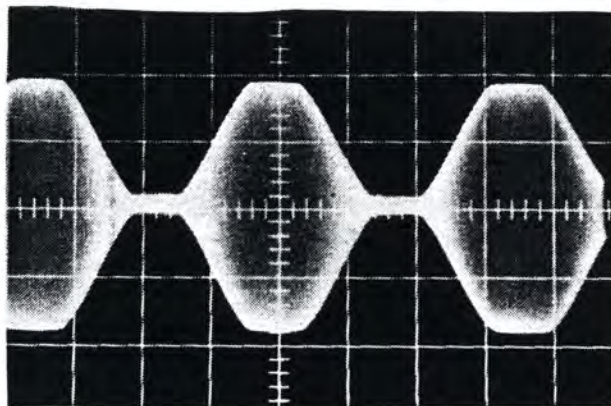
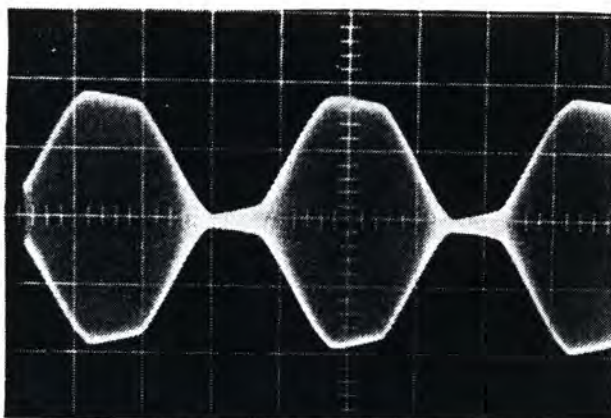
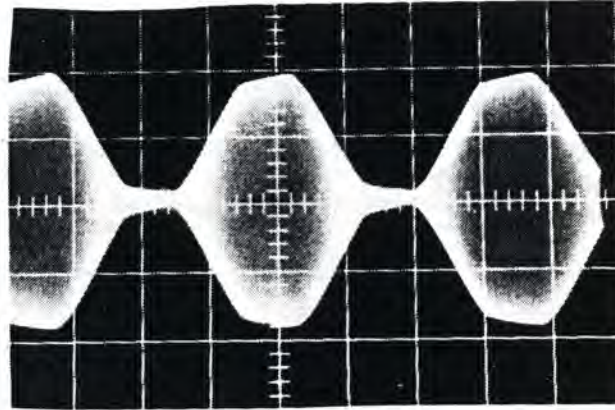

FIGURE 2-7 NORMAL MODULATION ENVELOPE
FIGURE 2-8 UNDER-CORRECTED MODULATION ENVELOPE
FIGURE 2-9 OVER-CORRECTED MODULATION ENVELOPE
NOTE: If the modulation envelope as viewed on the oscilloscope appears as in Figure 2-7, no tilt correction is necessary and the following procedure should not be performed.
7. If tilt is present as shown in Figure 2-8, enable the tilt correct circuitry by rotating the front panel **TILT CORRECT** potentiometer until it just "clicks" on.
8. If tilt is present, as shown in Figure 2-8, adjust the **TILT CORRECT** control to obtain a waveform similar to Figure 2-7. Over-correction will resemble Figure 2-9 and cause poor performance. Turn **TILT CORRECT** control counter-clockwise to correct.
5. As viewed on the oscilloscope, it should be noted if bass notes clip in a similar tilted manner as shown in the photo of Figure 2-8. If this is the case, proceed to step 6. If the clipped bass information appears similar to Figure 2-7, no correction is necessary.
7. Adjust the PMC front panel **TILT CORRECT** control such that bass clipping is horizontal (as in Figure 2-7). The trace should be studied for several minutes as the adjustment is made to verify that the majority of low frequency tilt is removed.
**WARNING** FIGURE 2-9. DAMAGE TO THE TRANSMITTER MAY